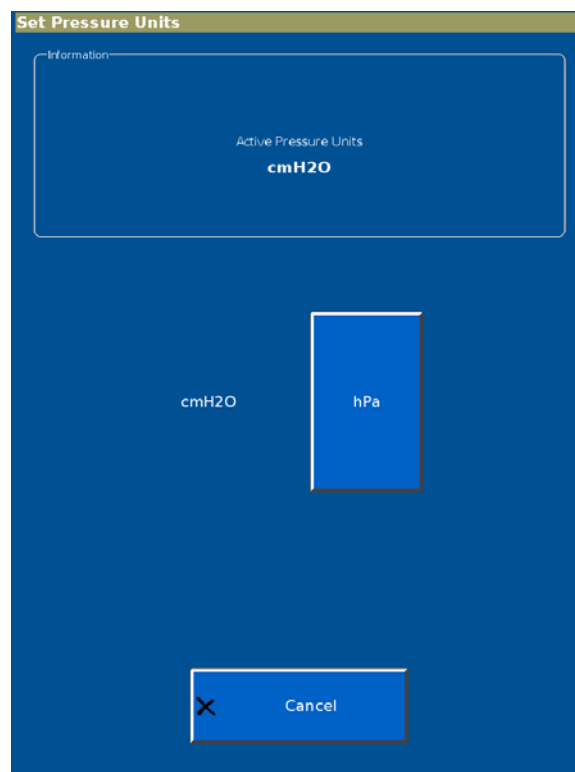

Figure 5-7: Set Pressure Units Screen
2. Touch the selected pressure unit button on the Set Pressure Units screen (Figure 5-7).